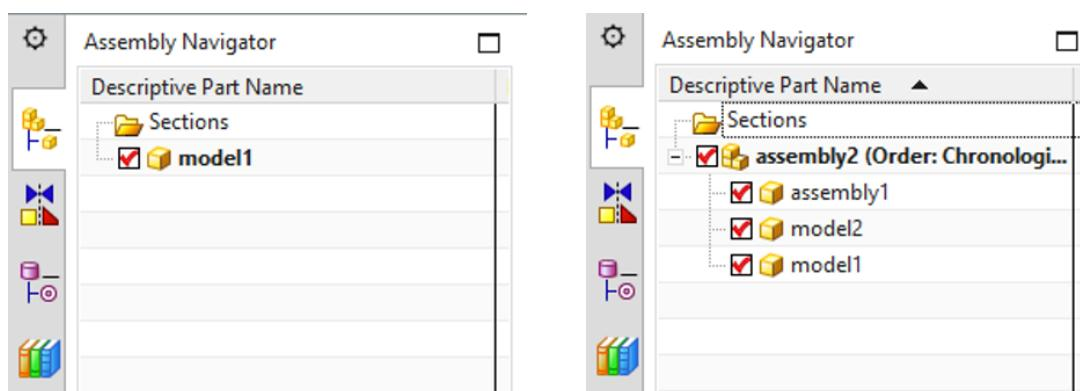

Figure 4: Differentiation of models (left) and assemblies (right) in the Assembly Navigator
- Models are always provided with the symbol . They can only consist of an individual part (see Figure 4, left side).
- Assemblies have the symbol . They can be composed of multiple models and assemblies (see Figure 4, right side).